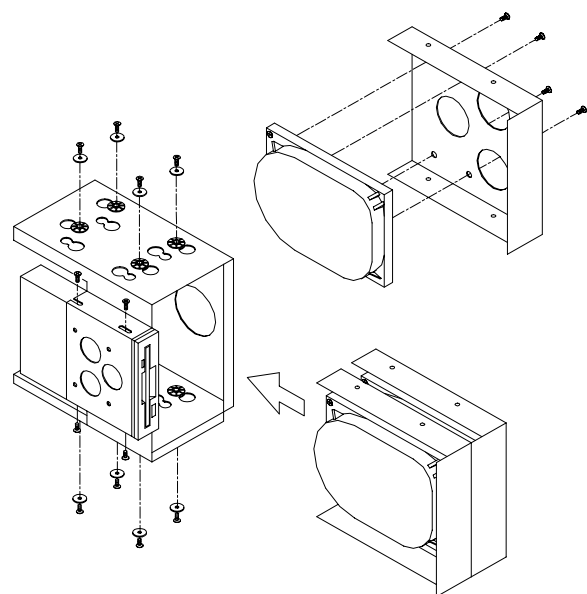

Figure 2-4: Inserting the drives into the drive bay
2. Remove the front cover of the drive bay, and insert the drives into their proper locations in the drive bay. See Figure 2-4 below: